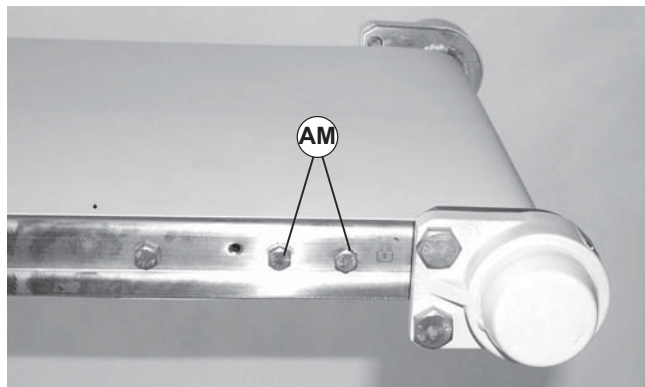
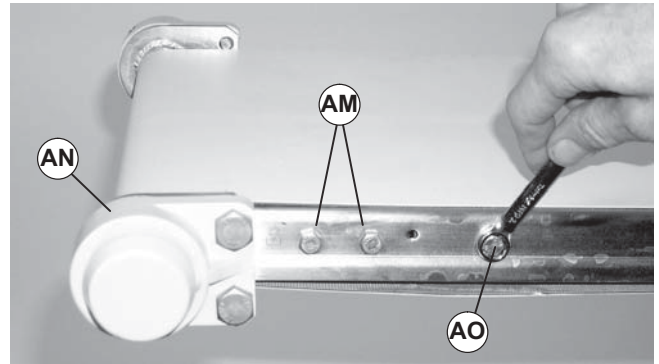

Figure 18
Figure 19
4. Loosen four M6 hex head cap screws (Figure 18, item AM) and (Figure 19, item AM).
5. Retract idler spindle assembly (Figure 19, item AN) by pushing in on it or by turning M6 hex head pinion screw (AO) clockwise.